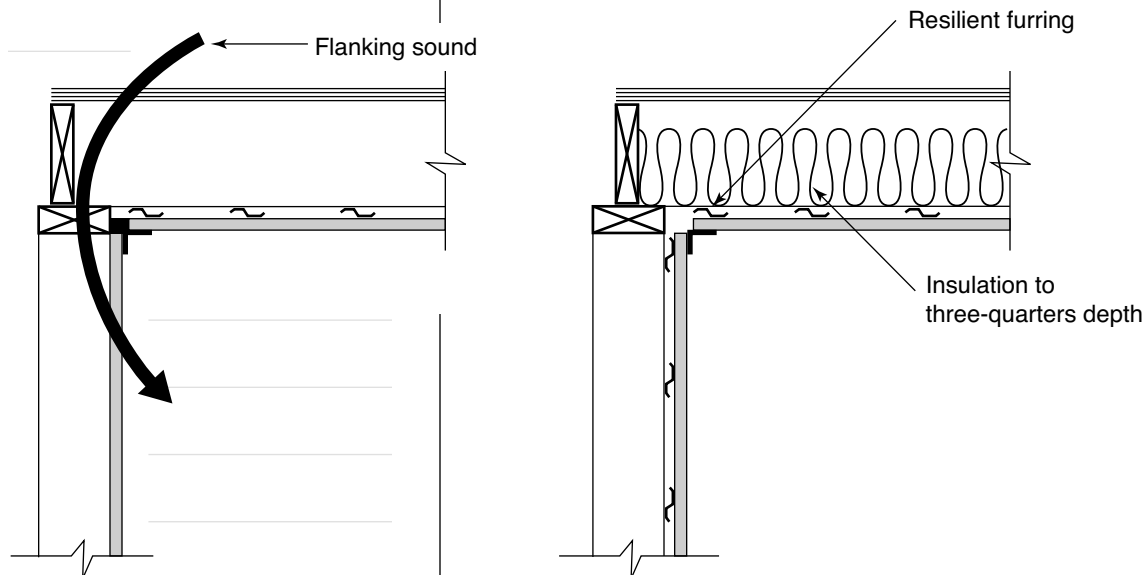

FIGURE 18
- ◆ Attach drywall to ceilings and both sides of walls using resilient metal furring. This reduces flanking sound travelling down the walls to the room below (see Figure 18).